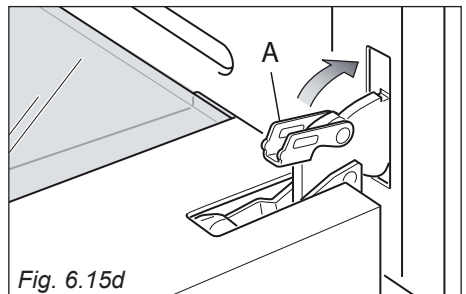

Fig. 6.15d
- Unlock the oven door by opening it completely and closing the lever “A” on the left and right hinges (fig. 6.15d).